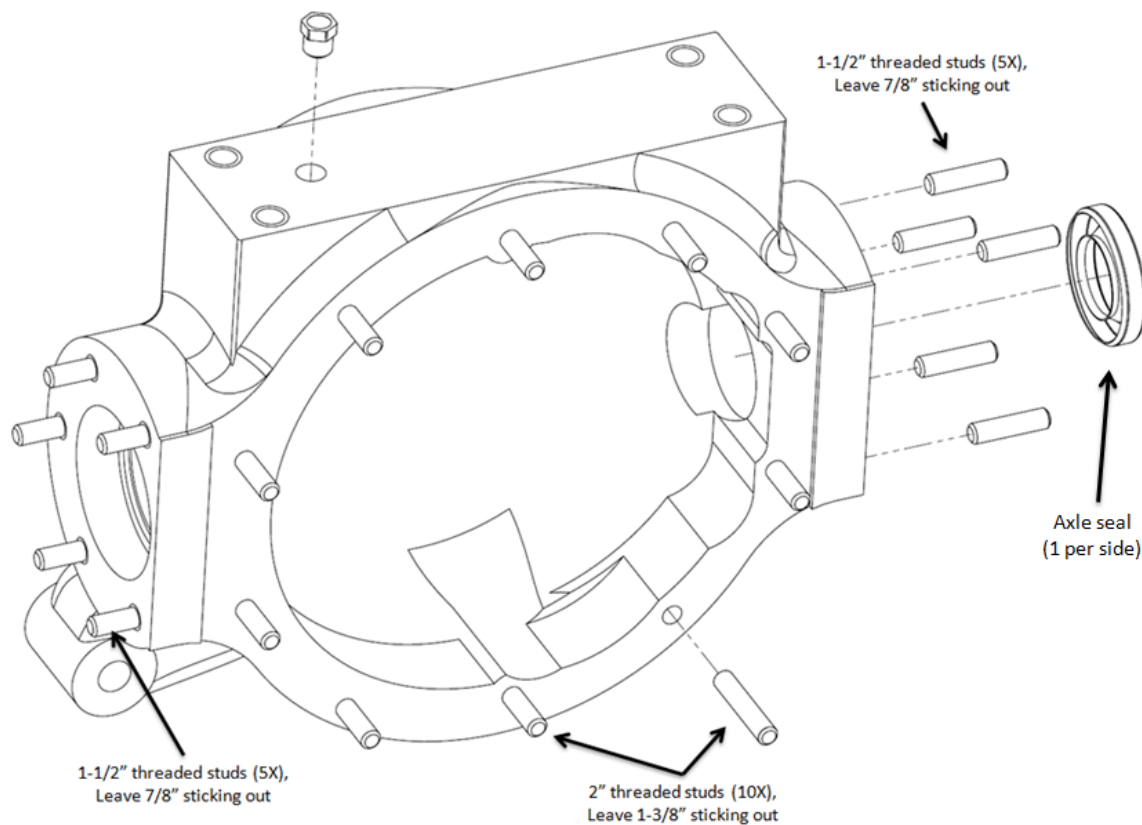

Figure 1. Install the vent, seals, threaded studs and drain plug (not shown) into the rear end housing
- 2) Next, install the threaded studs into the housing. There are 20 studs total, 10 are 1-1/2" long, and 10 are 2" long. Using a high strength thread locking compound, apply a few drops to each stud before installation. The shorter studs get installed onto the housing ends (5 on each side) for the caliper brackets and the longer studs get installed on the mounting face for the third member housing. The short studs should be installed with 7/8" protruding from the housing ends, and the long studs should be installed with 1-3/8" protruding from the third member mounting face, see Figure 1.